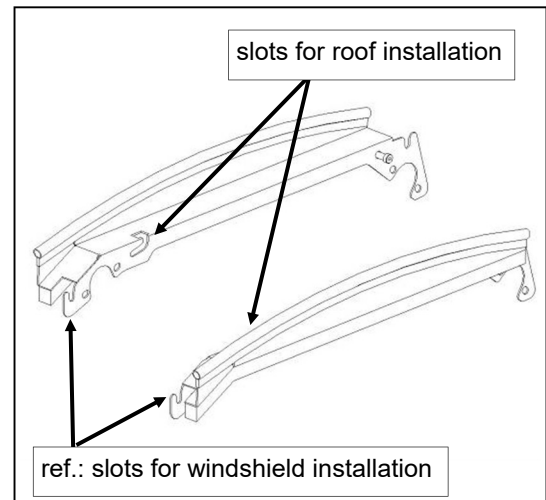

Fig. 4.2 (description of slot usage)
4.2 Orient the roof so the two quick attach pins are facing forward and the latches are facing the rear of the vehicle. Hook the pins into the receiving slots towards the front of the upper mounts and push down and forward to fully engage in the slots. See fig. 4.2 for the correct slots to engage in. Snap the latches onto the pins located on the rear of the upper mounts until they are fully engaged. Two (2) clicks means fully engaged.